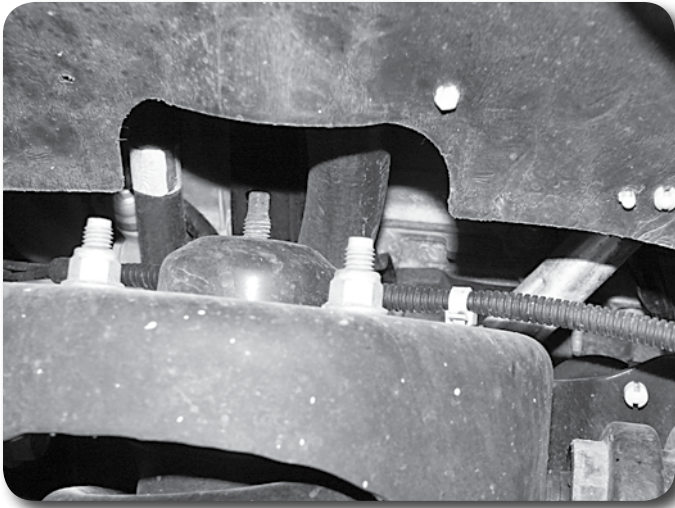

Figure 3
8. Remove the three upper strut mounting nuts at the frame **Figure 3**. Do not remove the center strut rod nut, it is under extreme pressure. Save mounting nuts.